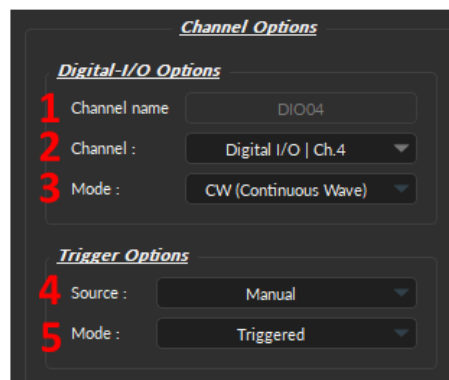

Figure 8.20: *Channel(s) configuration window, Digital I/O Channel Options*
The **Channel Options** (Fig. 8.20) allow the user to select the mode of the digital signal, through **Digital I/O Options** and **Trigger Options**.
1. The **Channel name** (Fig 8.20, 1) allows user to specify a label for each channel.
2. The **Channel** (Fig 8.20, 2) identifies the channels available to create a Digital I/O. The channel can be changed by selecting a new one from the drop-down list. Each numbered channel on the physical console corresponds to the same number of the digital channel within the software.
3. The **Mode** (Fig 8.20, 3) identifies the type of signal sent (for output channels) or the way the signal is measured (for input channels). Three modes are available:
1. The **Source** trigger option (Fig 8.20, 4) allows the choice of a **Manual Trigger** (activated by a user) or an **Input** trigger, coming from a **Digital I/O** channel set in input mode.
2. The **Mode** (Fig 8.20, 5) defines how the trigger activates a sequence. This includes input sequences, which can be triggered/gated by an outside source.
The parameters contained in the **Sequence Options** depend on the **Channel Mode** (selected in **Channel Options**, Fig. 8.20), as following:
- The **Square** channel mode (Fig. 8.20) allows the creation of a square TTL pulse sequence. This includes all sequence options as the **CW** mode (Fig. 8.23, 1-3), with the following additions: